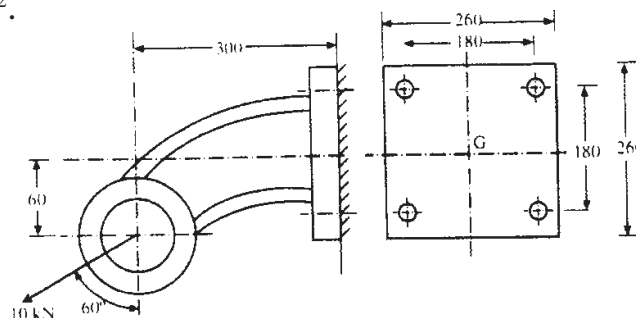

Fig.3
- Q6)** An offset column is fixed to steel column as shown in fig. 3 by means of four bolts. The bracket is subjected to an inclined pull of 10 kN. Determine the diameter of bolts by assuming allowable tensile stress in bolt to be 150 N/ mm². [16]